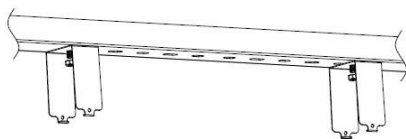

Figure 3
1. Mount the brackets (PLT-13672) on the rail or ceiling (Figure 3).
The color temperature and wattage/lumen output can be adjusted via the two DIP switches located on the driver box (Figure 3).